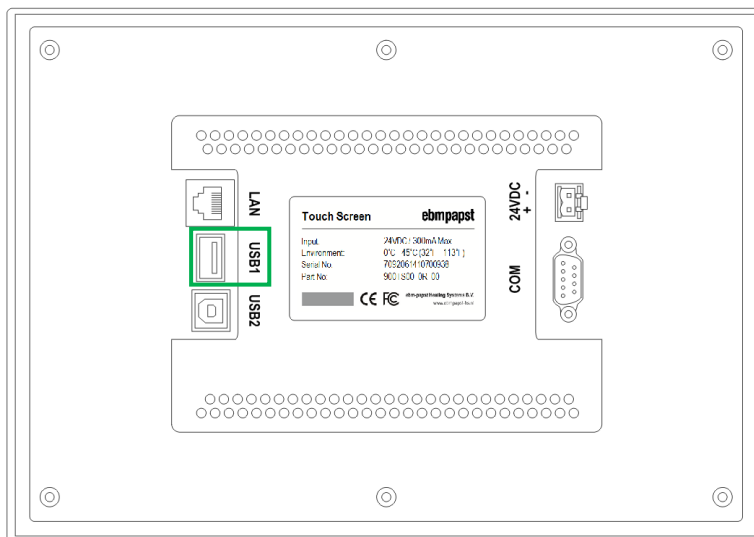

Fig.1
4. Insert the USB flash drive in the USB1 port on the touchscreen (Fig. 1).